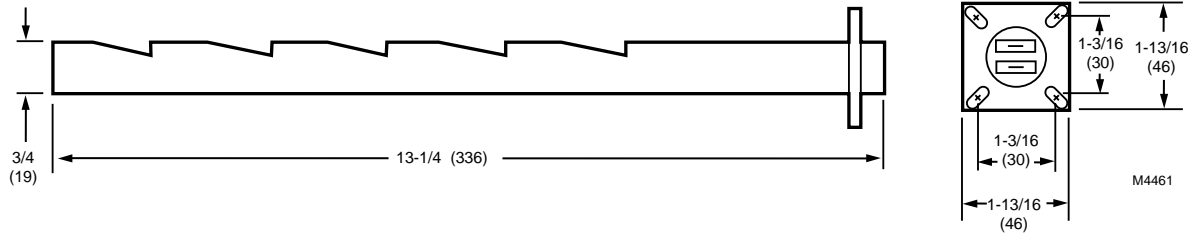

Fig. 1. Approximate dimensions of C7100 Averaging Temperature Sensor in in. (mm).
**Dimensions:** See Fig. 1.
The sensor assembly (see Fig. 1) consists of an aluminum sensor probe (element housed internally) with attached flange that can be mounted on a flat duct or plenum surface, or in a 2 by 4 in. (51 by 102 mm) junction box using four No. 8 screws. Connections to the sensor are made through two recessed 1/4 in. (6 mm) quick-connect terminals.